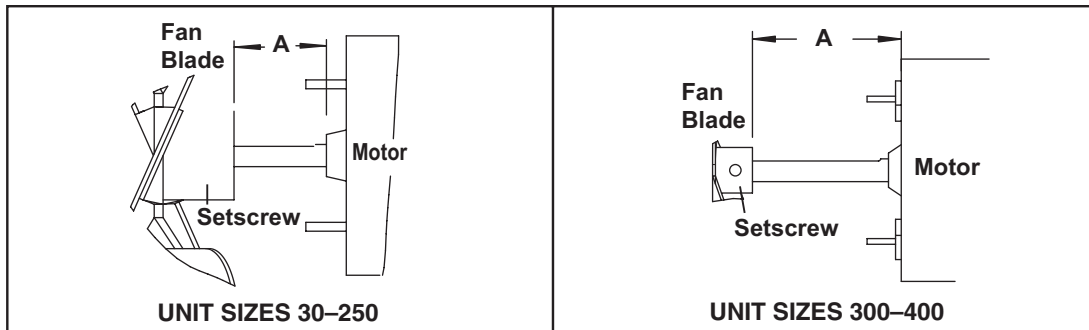

Figure 25. Fan and Motor Spacing (Refer to Table 24)
6. Ensure that fan is in proper position on shaft (see Figure 25), that setscrew is tightened in accordance with torque listed in Table 24, and that nuts securing motor to fan guard are torqued to to 30 inch-pounds.
*See Figure 25.